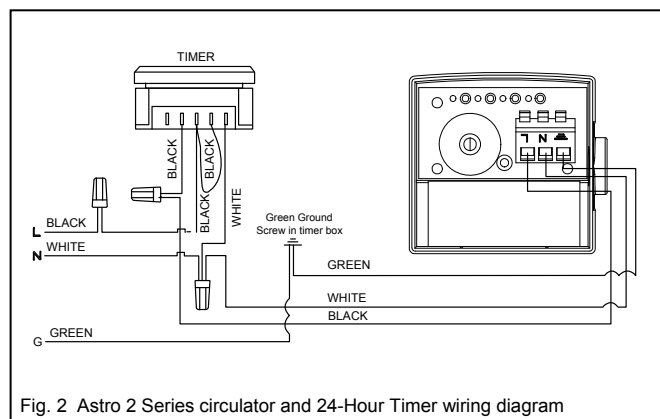

Fig. 2 Astro 2 Series circulator and 24-Hour Timer wiring diagram
- Unfasten the mounting screw (4A) and remove the terminal box cover (3).
- Unfasten the mounting screw (4B) on the timer box cover (10) and detach it from the base (8).
- Remove the original conductor (7A) from the circulator terminal box (2)
- Fasten the connection adaptor (7B) to the circulator terminal box (2)
- Fasten the threaded fitting (6) to the connection adaptor (7B)
- Fasten the lock nut (5A) on the end of the threaded fitting (6) and insert the timer box (8)
- Fasten the lock nut (5B) onto the end of the threaded fitting (6) so the timer box (8) is in between and securely attached.
- Connect terminal box lead wires (black, white and green) to the timer unit and the power supply (as shown in Fig. 2).